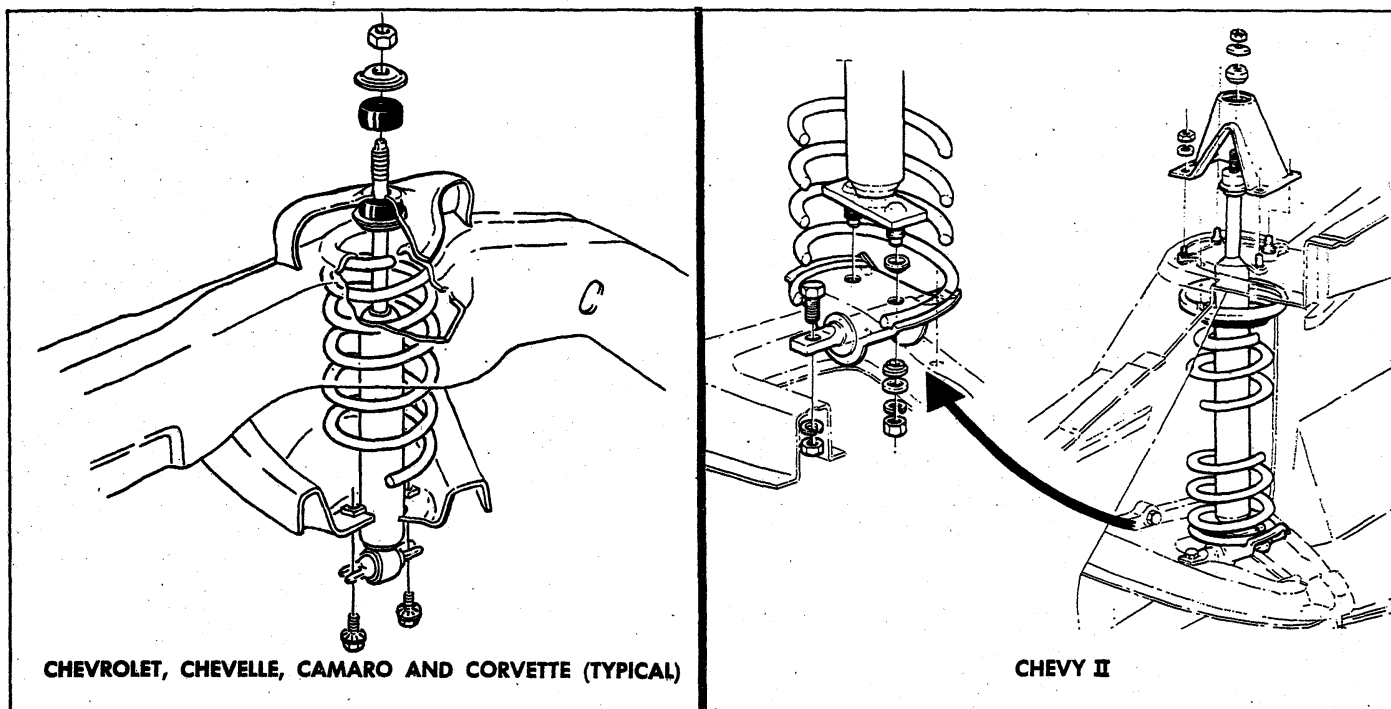

Fig. 14 - Shock Absorber
Chevrolet, Chevelle, Camaro and Corvette (Fig. 14)
Chevy II (Fig. 14)**Removal**
1. Assemble upper washer and rubber bushing to shock absorber rod (refer to Figure 14).